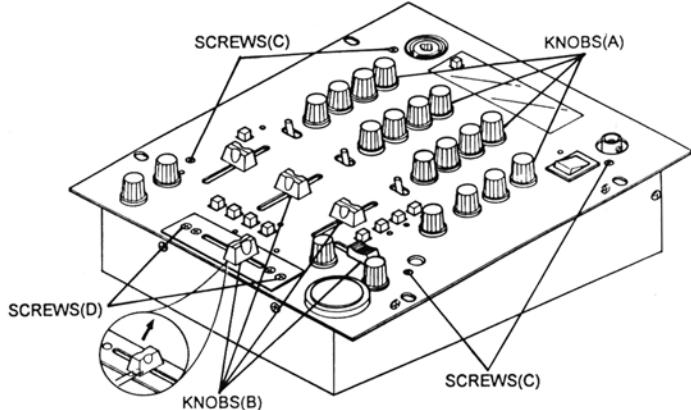

Fig. 1
- (a) Remove 20 knobs(A).(Fig.1)
- (b) Remove 5 knobs(B).(Fig.1)
- (c) Remove 4 screws(C).(Fig.1)
- (d) Remove 2 screws(D).(Fig.1)